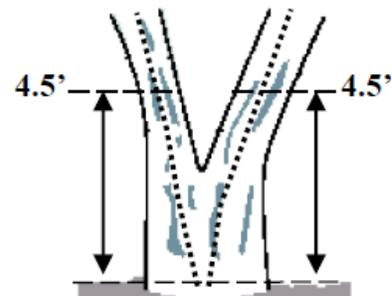
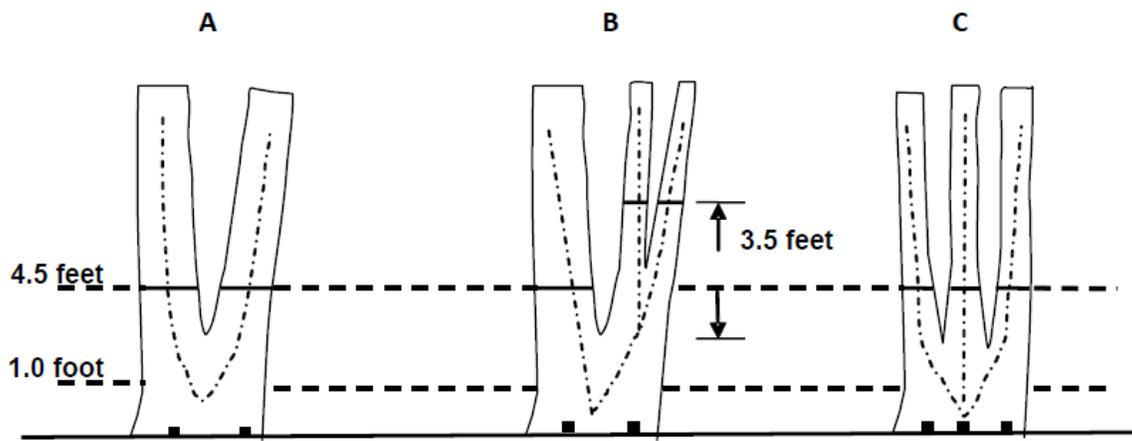
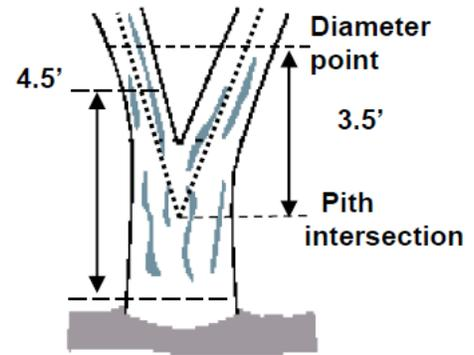
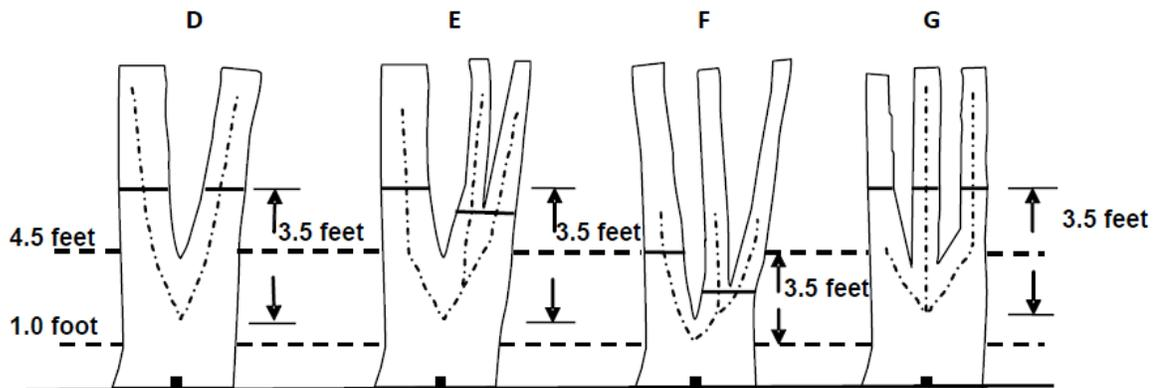

Figure 1
Figure 2 A-C
Figure 3
Figure 4 D-G
- **Trees forked below 1.0 foot.** Trees forked below 1.0 foot are treated as “distinctly separate trees” (Figure 1). Limiting distances are measured individually to the center of each stem where it splits from the stump (figure 2 A-C). DBH is measured for each stem at 4.5 feet above the ground. When stems originate from pith intersections below 1 foot, it is possible for some stems to be within the limiting distance of the plot and others to be beyond the limiting distance. If stems originating from forks that occur below 1.0 foot fork again between 1.0 and 4.5 feet (Figure 4-E), the rules in the next paragraph apply.
- **Trees forked between 1.0 foot and 4.5 feet.** Trees forked between 1.0 foot and 4.5 feet are also counted as separate trees (Figure 3), but only one limiting distance for each stem (Figure 4; D-F). Although a single azimuth and distance applies to all, multiple stems should be recorded as they occur in clockwise order (from front to back when one stem is directly in front of another). The DBH of each fork is measured at a point 3.5 feet above the pith intersection. When forks originate from pith intersections between 1.0 and 4.5 feet, the limiting distance is the same for all forks--they are either all on, or all off the plot.
- Multiple forks are possible if they all originate from approximately the same point on the main stem. In such cases, measure DBH on all stems at 3.5 feet above the common pith intersection (Figure 4-G).
- Once a stem is tallied as a fork that originated from a pith intersection between 1.0 and 4.5 feet, do not recognize any additional forks that may occur on that stem. Measure the diameter of such stems just below the base of stem separation as shown in figures 4-E and 4-F (i.e., do not move the point of diameter the entire 3.5 feet above the first fork). Once a stem is tallied as a fork that originated from a pith intersection between 1.0 and 4.5 feet, do not recognize any additional forks that may occur on that stem. Measure the diameter of such stems just below the base of stem separation as shown in figures 4-E and 4-F (i.e., do not move the point of diameter the entire 3.5 feet above the first fork).